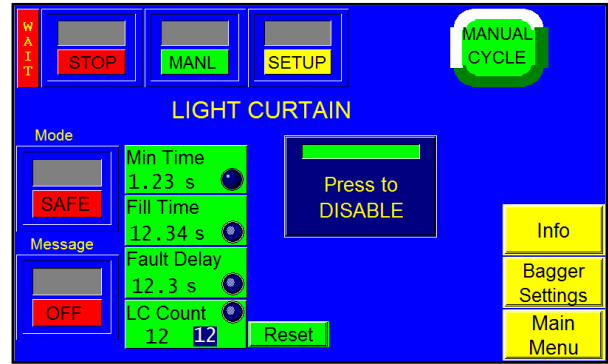

Figure 3 - 17
**Message ON / OFF button:** If this button is toggled to ON, a message is displayed every time the Light Curtain area is blocked. The message tells operators to check for an obstruction. See Figure 3 - 18. Remove the obstruction to continue operation. If this button is toggled to OFF, a message will not be displayed when the Light Curtain area is blocked.